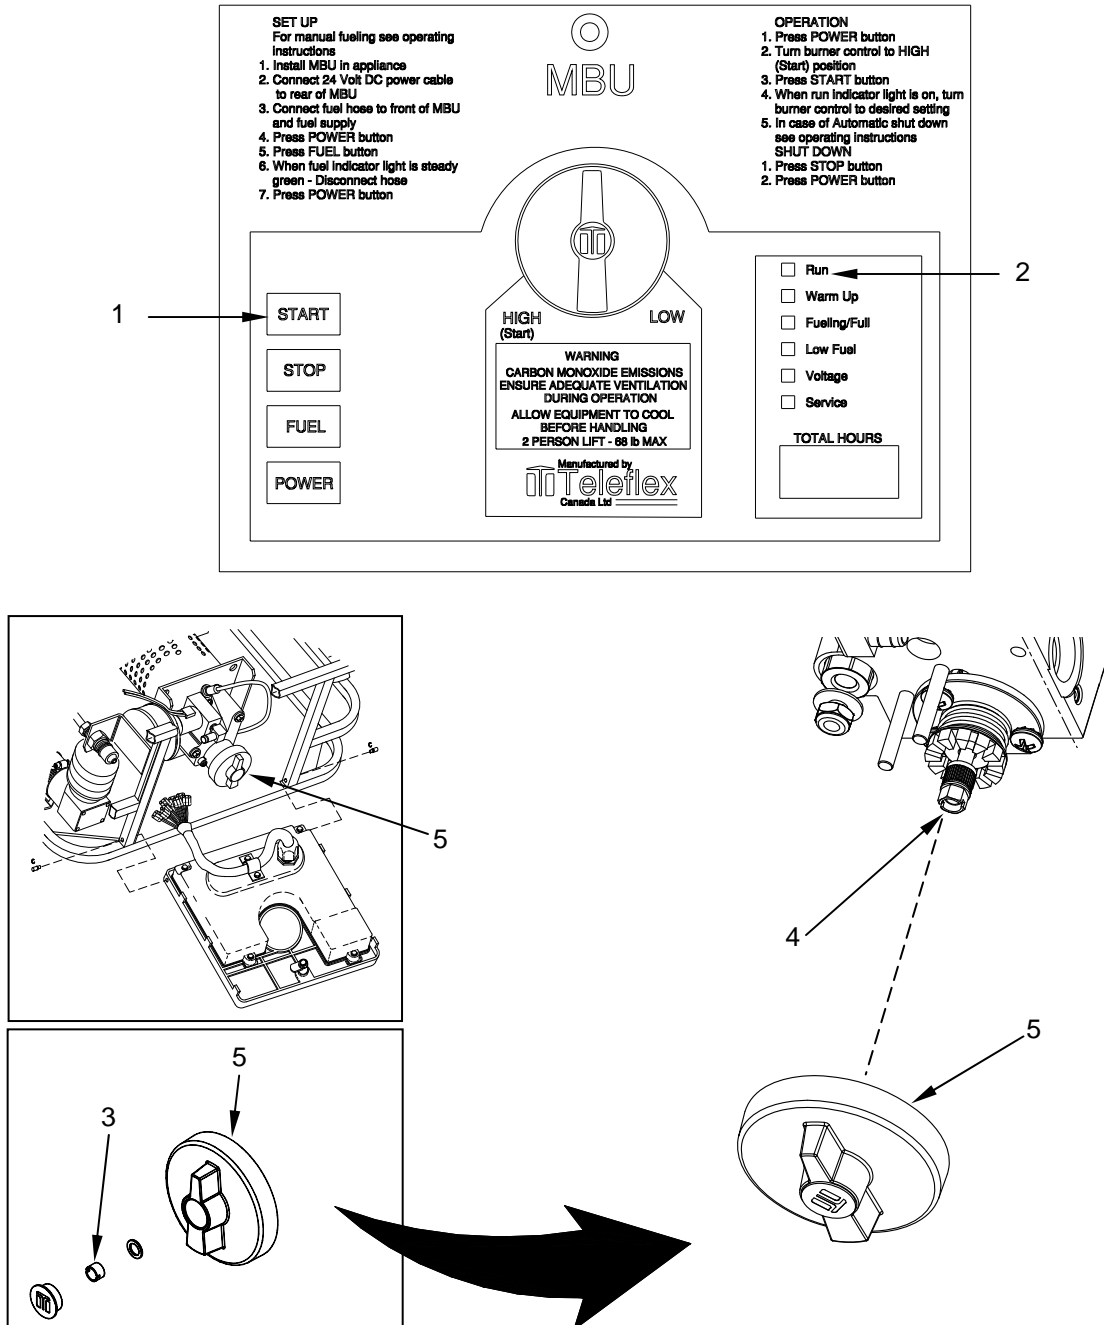

Figure 7. Adjust the Flame Control on the MBU-V3.
13. Press the start button (Figure 7, Item 1).
14. If the burner starts, wait for the 2-minute warm-up cycle to complete and the green “RUN” button (Figure 7, Item 2) to illuminate and proceed to step 17 of this procedure.
- a. While holding the control knob in place, loosen the control knob retaining nut (Figure 7, Item 3).
- b. Using a suitable screwdriver, turn the flame control valve (Figure 7, Item 4) ½ turn counterclockwise.
- c. Tighten the control knob retaining nut (Figure 7, Item 3).
- d. Press the start button (Figure 7, Item 1).
16. If the burner starts, wait for the warm up cycle to complete and the green light on the control panel (Figure 7, Item 2) to illuminate. If the burner will still not start, go back to step 15 of this section.
17. Set the burner to low by rotating the control-knob (Figure 7, Item 5) clockwise until it stops.
- a. While holding the control knob in place, loosen the 5/16-inch control knob retaining nut (Figure 7, Item 3).
20. While holding the control knob in place, loosen the control knob retaining nut (Figure 7, Item 3).
21. Using a suitable screwdriver, turn the flame control valve (Figure 7, Item 4) to adjust the flame level.
22. Tighten the control knob retaining nut (Figure 7, Item 3).
23. Rotate the flame control knob (Figure 7, Item 5) throughout its entire range for low to high. The flame should vary smoothly from low to high and should not produce smoke or smell at any setting, if so the adjust procedure is complete. If the low firing rate cannot be adjusted to achieve an acceptable flame, continue to the next step.
24. Place the control knob in the 12 o'clock position as shown in Figure 7.